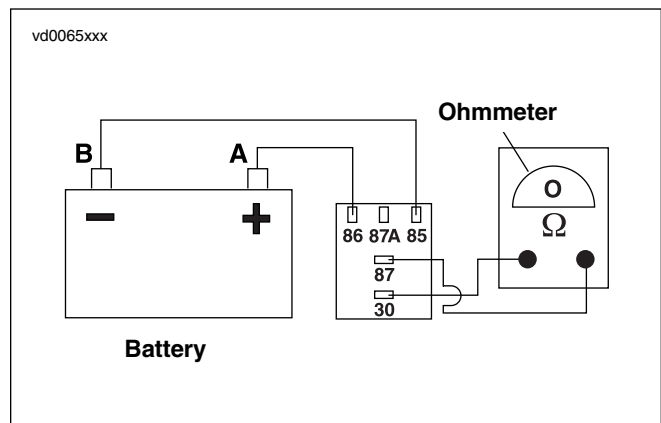

Figure 1-7. Starter Relay Test
3. See Figure 1-7. The starter relay can be tested using the motorcycle's 12 volt battery and a multimeter.